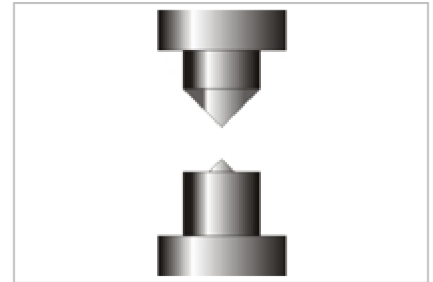

Figure 1: The small cone tip end of the lower Setting Tool faces up. The large cone end of the upper setting tool faces down.
3. Insert the proper Setting Tool into the Tool Holder installed in the base of the Eyelet Press. The small cone tip end of the Setting Tool should be facing up. Tighten the set screw to secure in position. (See Figure 1)
4. Insert the proper Setting Tool into the ram of the Eyelet Press. The larger cone end of the Setting Tool should be facing down. No tightening should be needed, springs inside the ram should hold the Setting Tool in position. (See Figure 1)